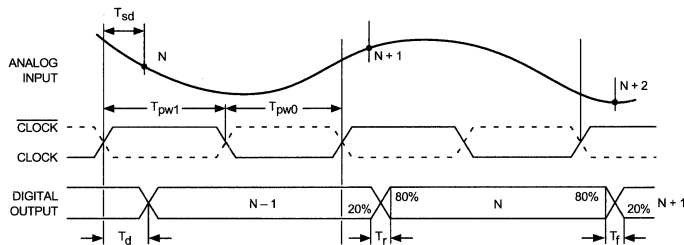

**Figure 2. ADC-317 Typical Connection Drawing**
- ② For conversion rate of 125MHz.
- ③ TPS = Times per sample. Each unit is production tested for 10 seconds.
- ④ 220Ω pull-down resistors required on digital outputs.
5. Digital output bits 1 through 8 require 220Ω pull-down resistors connected to the negative supply rail. Refer to Figure 2.